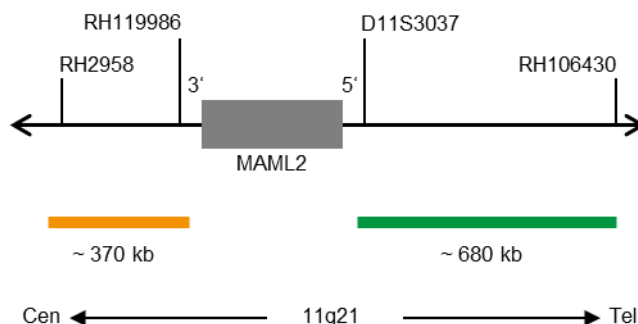

Fig. 1: SPEC MAML2 Probe map (not to scale)
- ZyGreen (excitation 503 nm/emission 528 nm) labeled polynucleotides (~10 ng/μl), which target sequences mapping in 11q21\* (chr11:96,115,829-96,797,136) distal to the MAML2 breakpoint region (see Fig. 1).
- ZyOrange (excitation 547 nm/emission 572 nm) labeled polynucleotides (~4.5 ng/μl), which target sequences mapping in 11q21\* (chr11:95,296,828-95,668,215) proximal to the MAML2 breakpoint region (see Fig. 1).